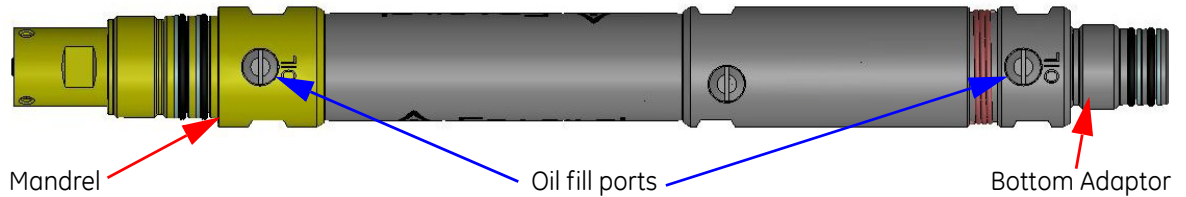

Figure D-3 Location of the two oil fill ports
- 3 Insert the two Piston Setting Pins (item 3, KITTO14-NT0009) in the two upper well-fluid entry holes and make sure they engage with the groove in the Piston. This is to restrict any movement of the Piston.
- 4 Use the O-Ring (item 4, KITTO14-NT0009) to secure in position the two Piston Setting Pins.
- 5 With reference to Figure D-3, install the two Oil Filling Adapters (item 2, KITTO14-NT0009) (complete with the two O-Rings - item 5, KITTO14-NT0009) in the two oil fill ports and make sure a clean, tight connection is made.